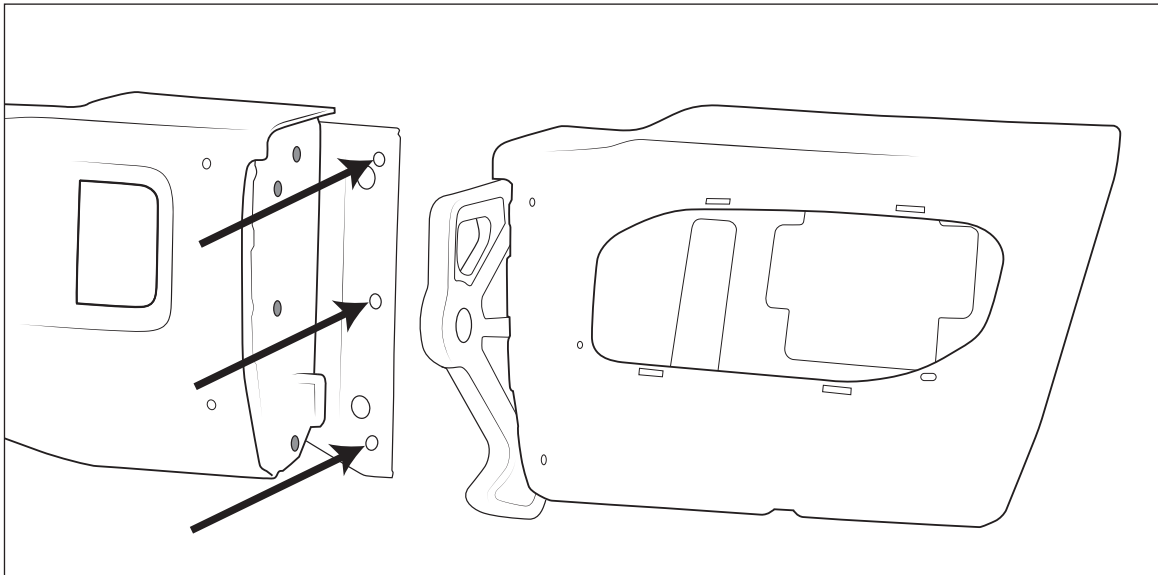

Figure 14
3. Insert three M12x35 carriage bolts into the bumper corner and through the holes in the outer frame bracket (fig. 14). Secure with M12 nuts and hand tighten.